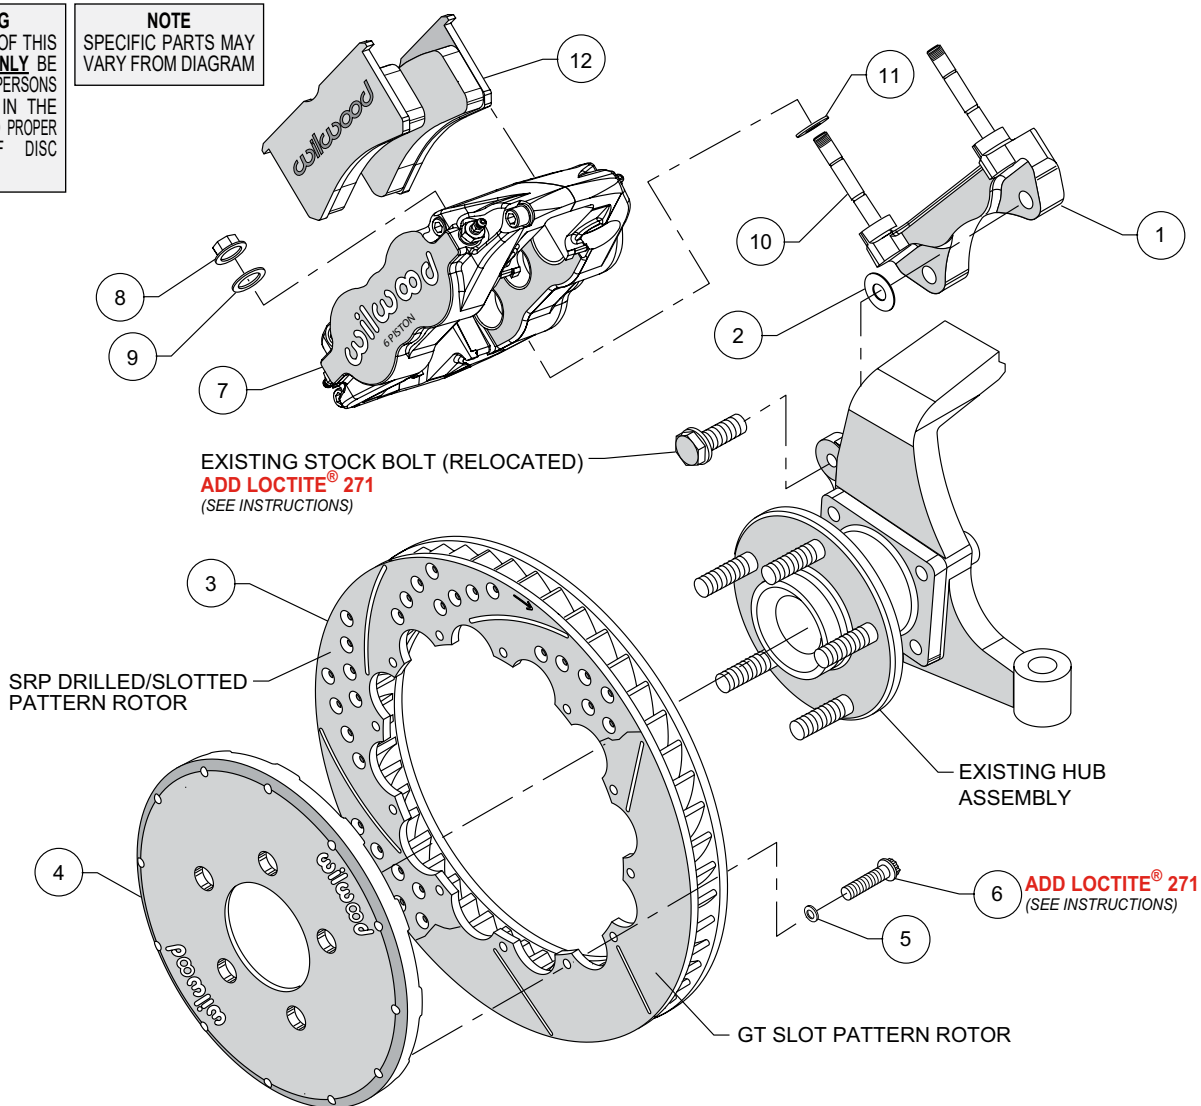
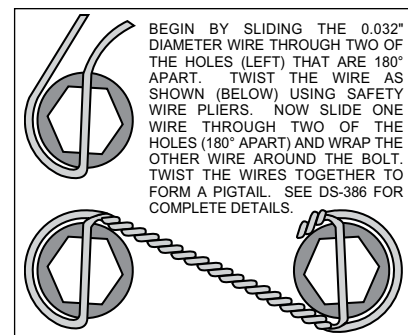

Figure 1. Typical Installation Configuration
Figure 3. Safety Wire Diagram
- The caliper mount bracket assembly (1) should be installed first with clean, dry threads on the mounting bolts. Install the bracket using the original caliper mount bolts. The bolts will now pass through the spindle from the opposite direction that they were removed (see figure 1). The bracket must tighten squarely against the inboard side of the caliper mount bosses on the spindle body. Inspect for interference from casting irregularities, machining ridges, burrs, etc. Use one thin shim (2) between the bracket and spindle during initial trial fitting. Later, after the caliper, pad, and rotor alignment has been checked, and any necessary shims have been put in place, the mount bolts should be coated with red *Loctite*® 271 and torqued to 65 ft-lbs.
- Assemble the rotor (3) to the hat (4) with the bolts (6) and washers (5) provided in the configuration pictured in figure 1. Apply red *Loctite*® 271 to the bolt threads and torque to 155 **in-lb** using a criss-cross pattern. For an added measure of security, the bolts may be safety wired using standard 0.032 inch diameter stainless steel safety wire as shown in Figure 3. Please refer to Wilwood's data sheet DS-386 (available at www.wilwood.com/Pdf/DataSheets/ds386.pdf) for complete safety wire installation instructions.
- NOTE:** This kit contains distinct right and left hand calipers that must be mounted in a specific direction, as described below. Initially place one .035" thick shim (11) and each stud (10) as shown in Figure 1. Mount the caliper (7) onto the bracket (1) using lock nuts (8) and washers (9), Figure 1. Ensure that the caliper is mounted so that the largest pistons are at the rotor exit end of the caliper, in relation to the direction of rotor rotation. Temporarily tighten the lock nuts and view the rotor through the top opening of the caliper. The rotor should be centered in the caliper. If not, adjust by adding or subtracting shims (2) between the bracket and the upright. Always use the same amount of shims on each of the two mounting bolts. Once the caliper alignment is correct, remove the bracket mounting bolts one at a time, apply red *Loctite*® 271 to the threads, and torque to manufacturer's specifications.
- Remove the caliper center bridge pad retainer bolt, nut, and tube from the caliper. Slide the brake pads (12) into place. They should install easily without interference. Check that the outside radius of the brake pad is aligned with the outside diameter radius of the rotor face. Add or subtract shims (11) between the caliper and mount bracket to gain the proper alignment. Reinstall the center bridge pad retainer tube, bolt, and lock nut. The locknut should be snug without play in the bolt or tube. Be cautious not to over tighten.
- Once all clearances have been checked, remove the wheel, caliper, hat, and rotor from the spindle and hub. Secure the caliper mounting bracket (1) to the spindle using red *Loctite*® 271. Torque the bolts to 65 ft-lbs. Reinstall the hat and rotor assembly and again use several lug nuts to hold it in place. Reinstall the caliper and torque the caliper nuts (8) to 30 ft-lbs.
- Install braided flexline kit part number 220-6746 (not included). The 10mm x 1 to -3 (P/N 220-6890) male fitting installs to the stock bulkhead. Then install the straight 1/8-27 to -3 NPT (P/N 220-6956) fitting into the caliper (7) (use PTFE tape on pipe threads of adapter fitting for proper sealing to caliper). Finally, install the flex line (P/N 220-6411) to the two previously installed fitting. **Carefully route lines to prevent contact with moving suspension, brake or wheel components.** Wilwood hose kits are designed for use in many different vehicle applications and it is the installer's responsibility to properly route and ensure adequate clearance and retention for brake hose components.